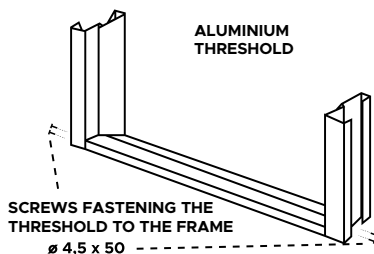

fig. 3
- Fasten the aluminium threshold to the steel frame with 4 installation screws (fig. 3) paying attention to fit the threshold seal line with the door frame. Confirm the correctness of installation by measuring the outer width from the side of threshold and lintel.